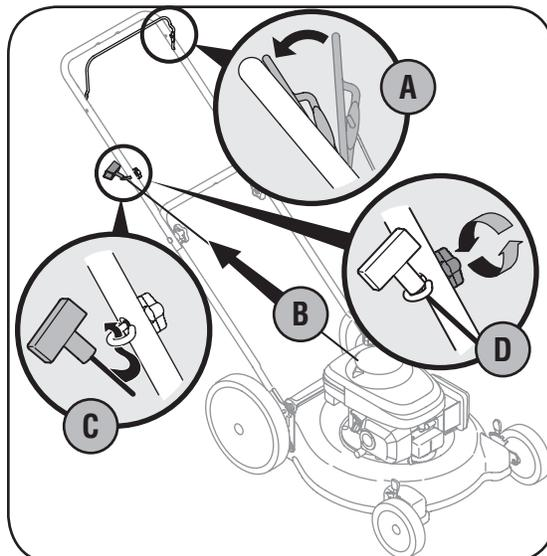

Figure 3-3: Pull recoil starter through rope guide and tighten.
- b. Pull starter rope out of the engine. Release blade control handle. See Figure 3-3.